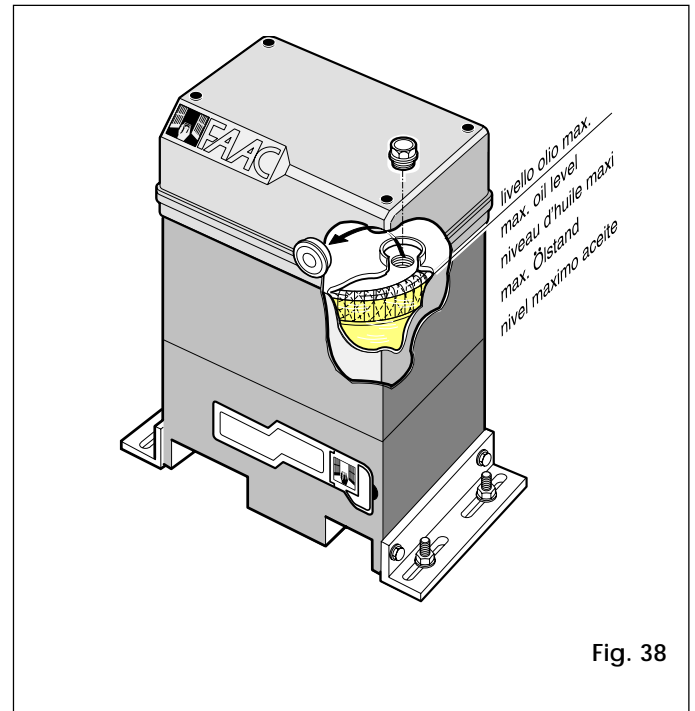
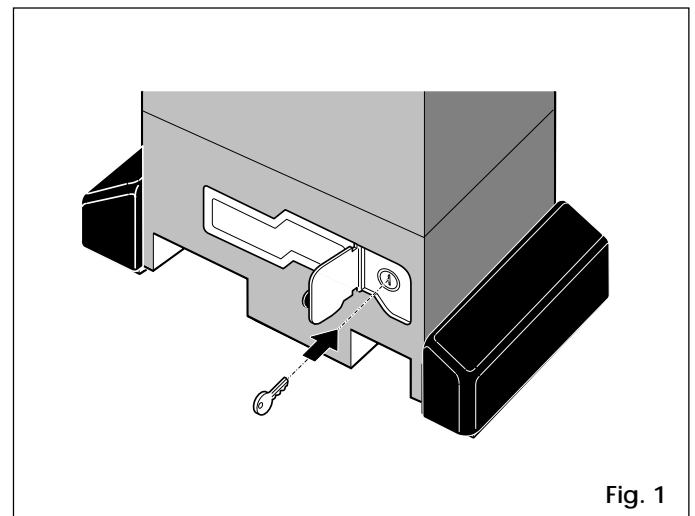

Fig. 38
Fig. 1
To access the oil reservoir, remove the oil filler cap (Fig.1 rif.8). The oil level should be up to the copper windings of the electric motor (Fig. 38).
- 1) Open the lock cover plate and insert the key supplied in the lock (Fig.1).